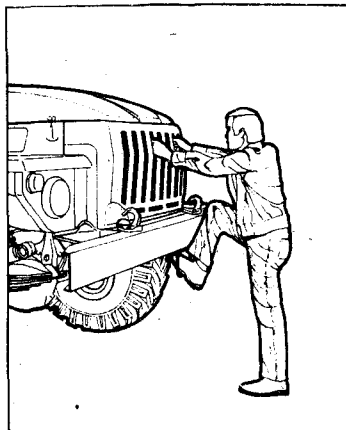

Fig. 6. How to Climb the Bumper Using Step and Radiator Grill Ribs
5. For climbing the truck bumper, use the step, central and extreme left ribs of the radiator grill, having inserts from the inside (Fig. 6).